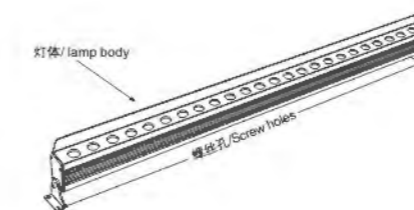

图 1/Picture 1
1. 用螺丝将固定件固定到墙上, 如图1所示。
1. Will be fixed by screws is fixed to the wall, as shown in figure 1.